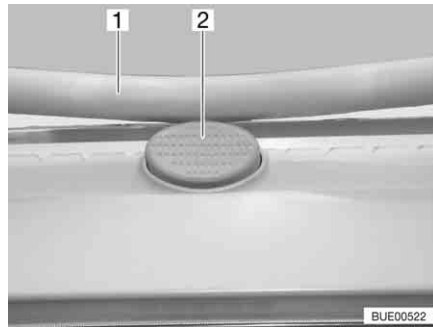

Fig. 78 Safety knob on the Heki skylight
- Press the safety knob (Fig. 78,2) and pull the bar (Fig. 78,1) down with both hands.
- Push the bar upwards with both hands until it is above the safety knob (Fig. 78,2).